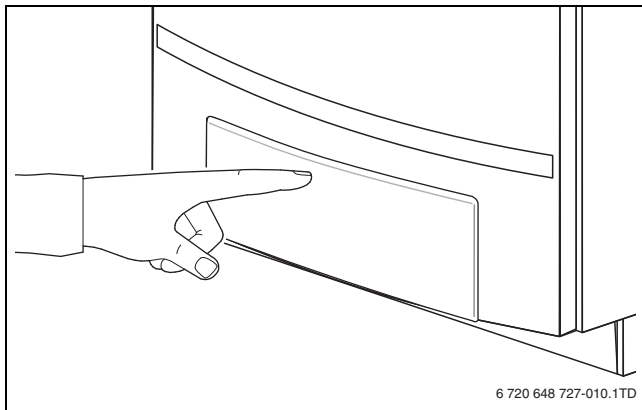

Fig. 3 Opening the control panel
- Push on the control panel to open it (→ fig. 3).